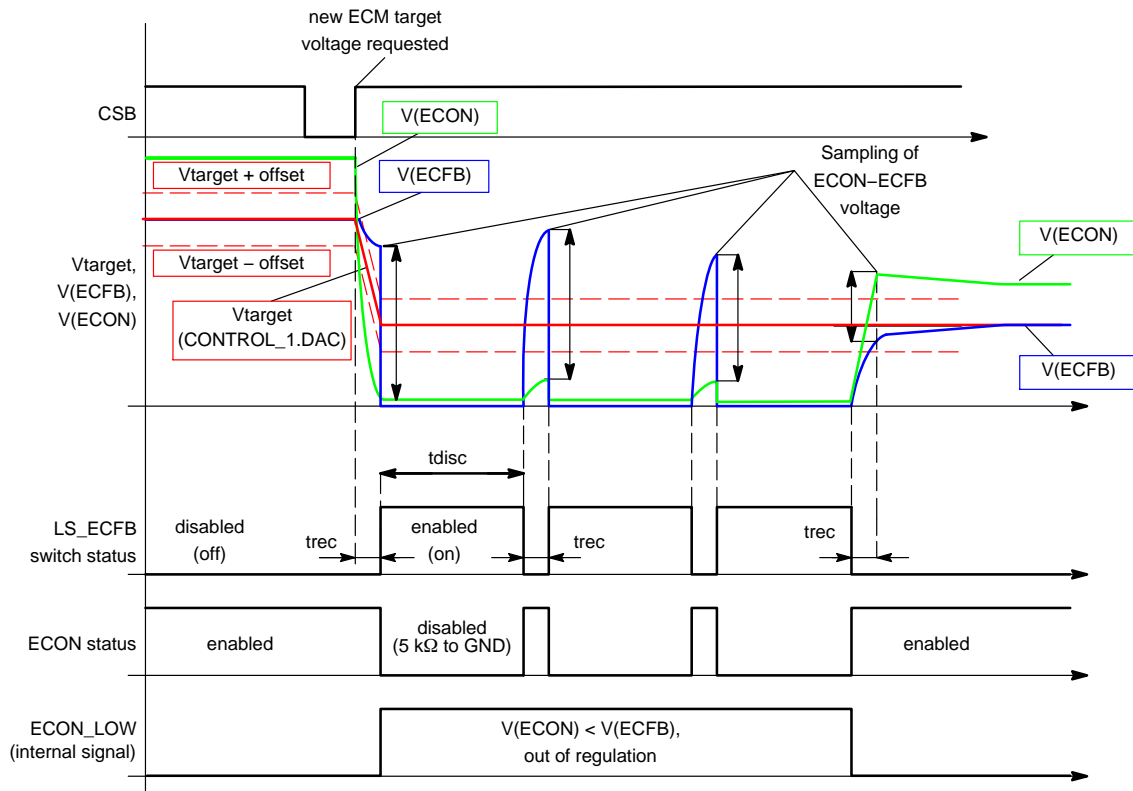

Figure 6. PWM Discharge Mode for ECFB
2. PWM discharge: In case of PWM discharge being activated (CONFIG.ECM\_LSPWM = 1 and CONTROL\_1.LS\_ECFB = 1) (Figure 6):